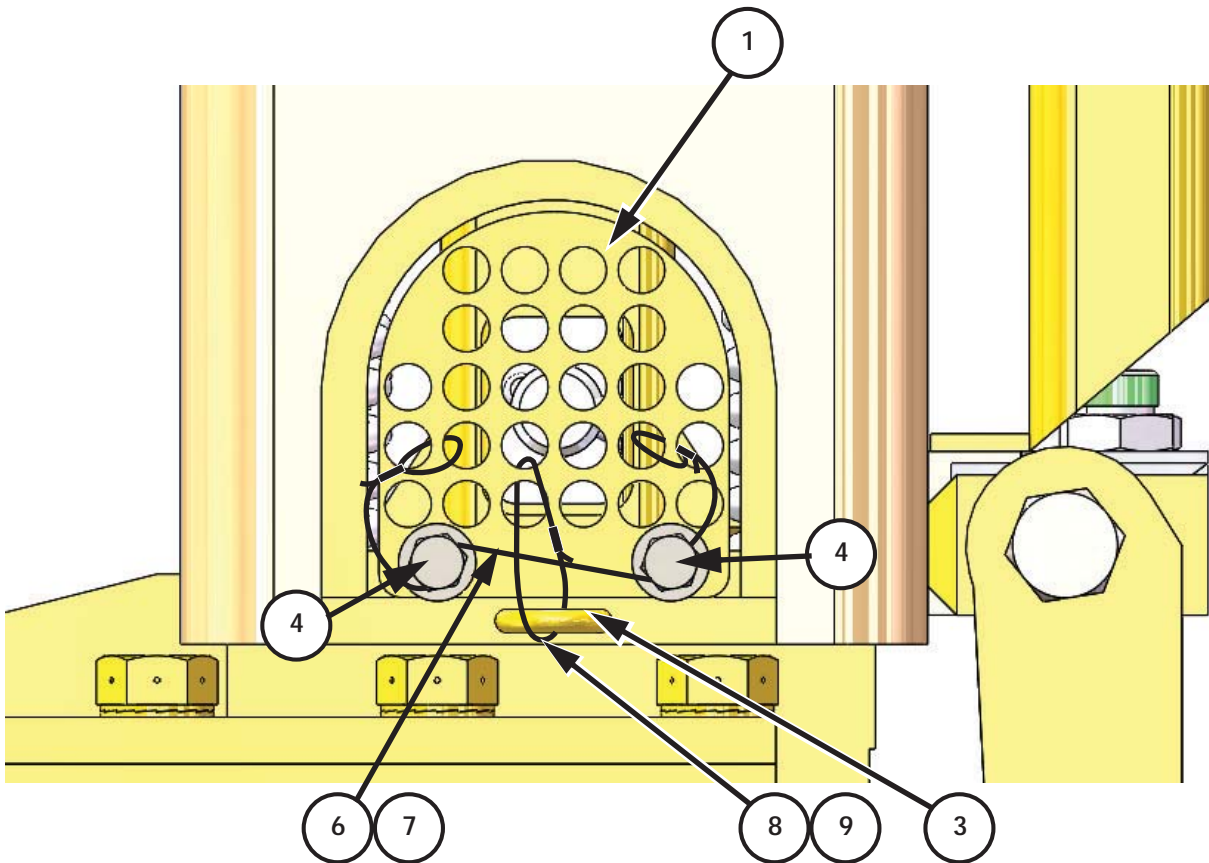

Figure 5: Installing Safety Restraint
8. Safety wire the HH-0375NC-0075-GR8-W fasteners (item 4) with M21-2000-010 1/16" Wire Rope (item 6) and M19-3006-010 1/16" Ferrule (item 7) as shown on Figure 5.
9. Install Safety Securement to Access Window Guard (item 1). Secure to Chain Link (item 3) with M10022 1/8" Wire Rope (item 8) and M19-3009-010 1/8" Ferrule (item 9) as shown in Figure 5. Ensure that slack is minimal to where the safety wire itself does not become a snag hazard.